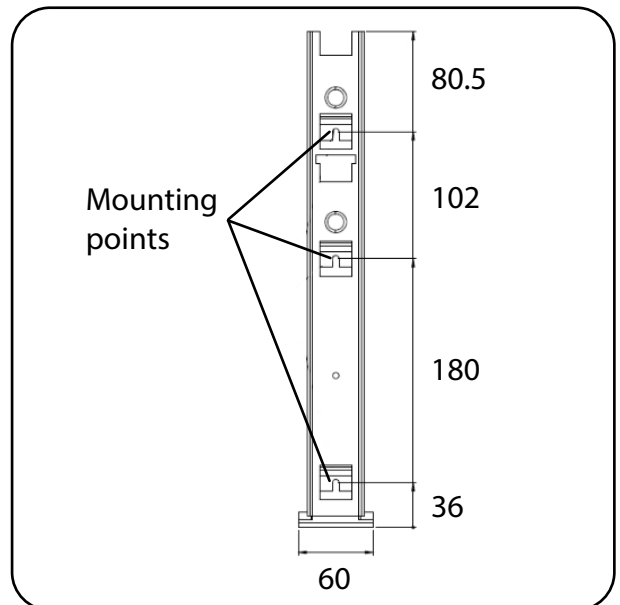

Fig. 6.3.02 – Mounting rail with mounting points [mm]
1. Fasten the mounting rail vertically to a flat and firm wall (Fig. 6.3.02). Match the type of fastening to the wall material. Use plugs and screws according to the properties and condition of the wall.